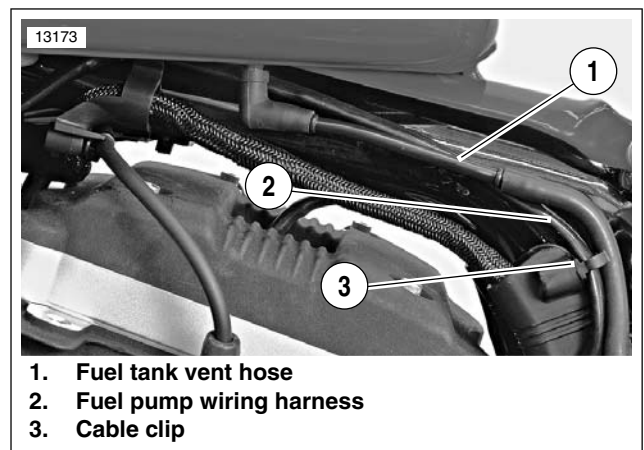

Figure 4-6. Fuel Tank Vent Hose and Fuel Pump Harness
“See Figure 4-6. Remove vent hose (1) from fuel tank vent nipple. Remove cable clip (3) securing fuel pump wiring harness (2) to mounting boss on H-bracket.”
14. Replace Figure 4-6 on page 4-9 with Figure 4-6 below.